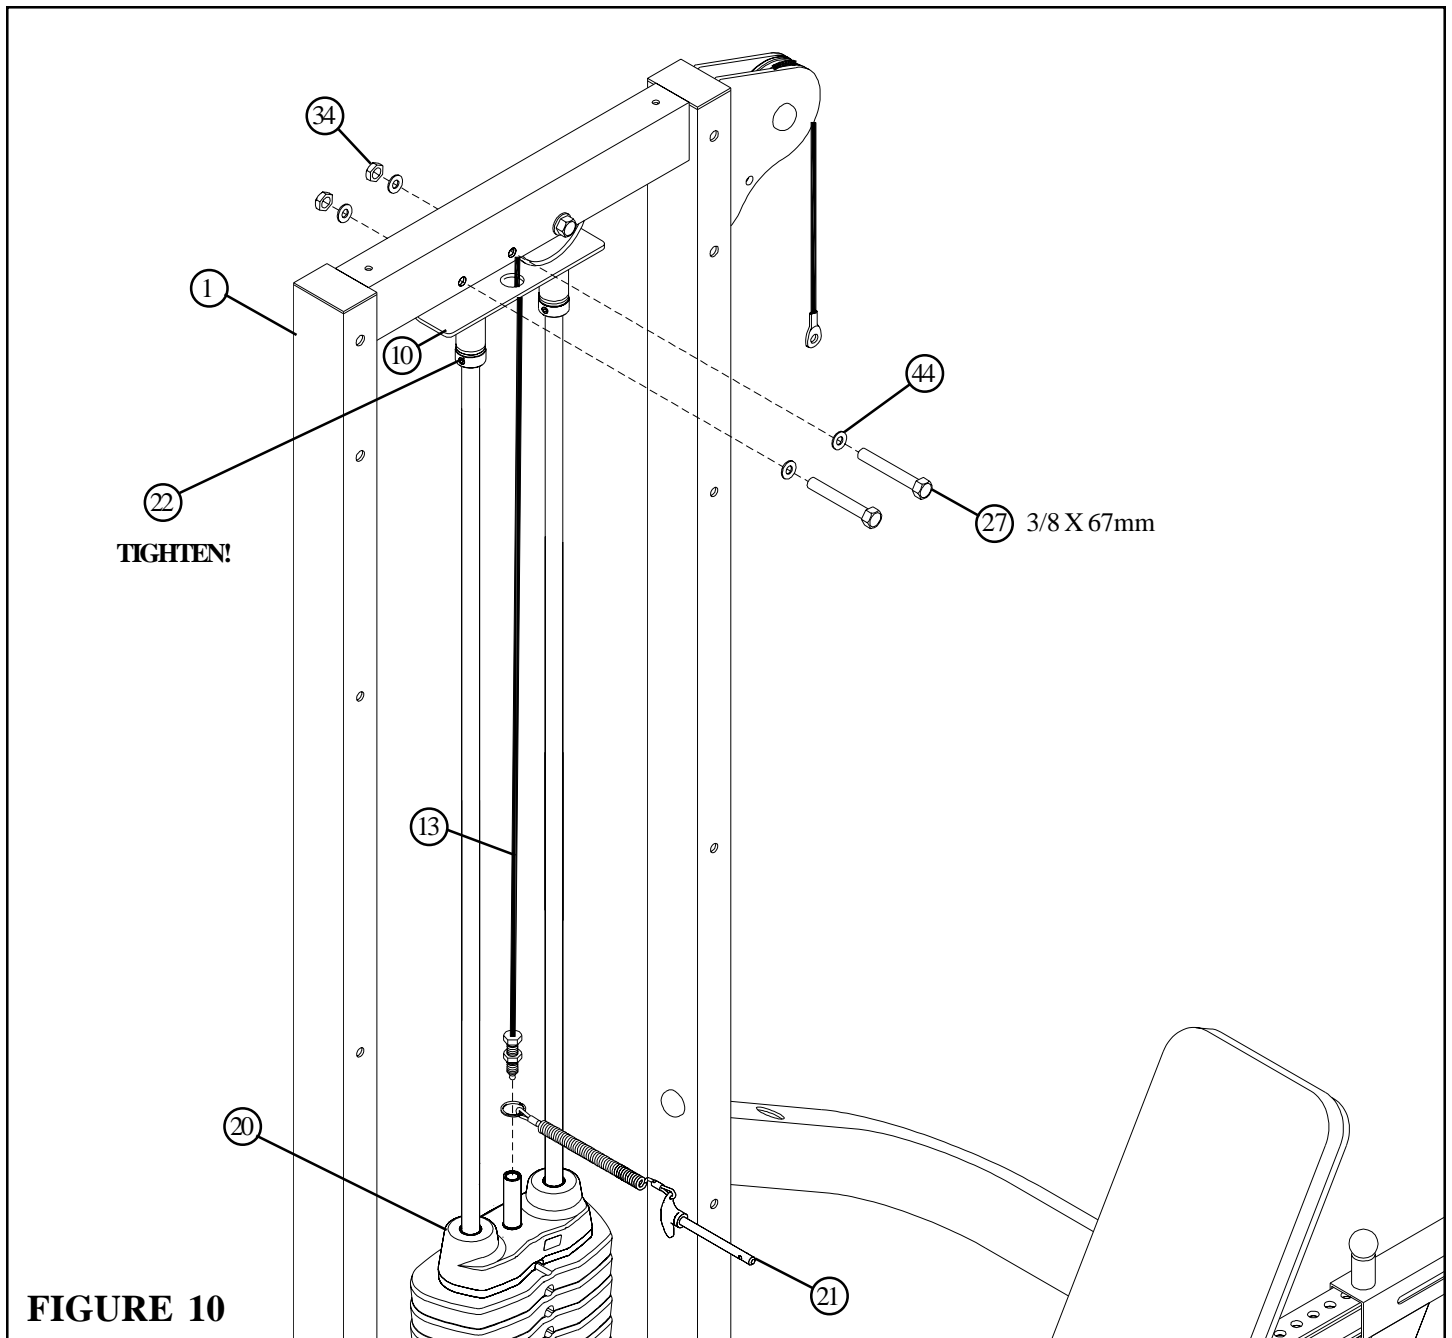

FIGURE 10
- Route the threaded end of the WEIGHT STACK CABLE (13) through the GUIDE ROD SUPPORT (10) and **SECURELY** assemble the GUIDE ROD SUPPORT (10) to the TOWER (1) using two 3/8 X 67mm BOLTS (27), four 3/8" FLAT WASHERS (44) and two 3/8" LOW HEIGHT LOCK NUTS (34) as shown in FIGURE 10.
- Slide the 13/16" SHAFT COLLARS (22) up against the GUIDE ROD SUPPORT (10) and **SECURELY** tighten the set screws on the SHAFT COLLARS (22). See FIGURE 10.
- Slide one WEIGHT STACK PIN (21) over the stem on the HEAD PLATE (20) as shown in FIGURE 10.
- **LOOSELY** thread end of the WEIGHT STACK CABLE (13) into the end of the stem on the HEAD PLATE (20). See FIGURE 10. (NOTE: Cable adjustment will be made in a later step.)